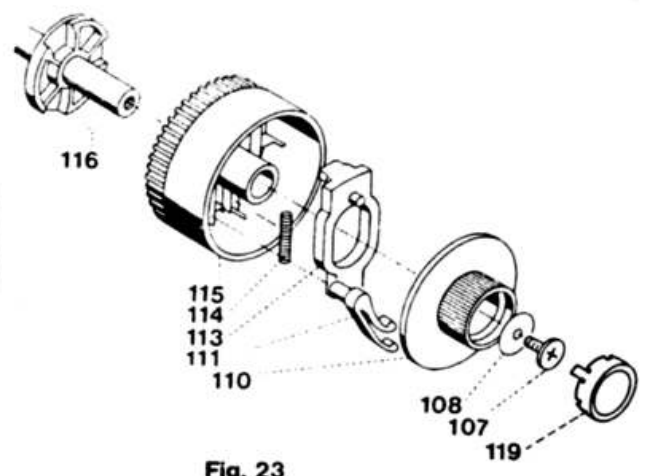

Fig. 23
- Remove plastic cap 119 with clearance gauge 00-880 133-01 (fig. 23).
Fig. 23 a
Fig. 23 b
Fig. 23 d
Fig. 23 c
Fig. 23 e